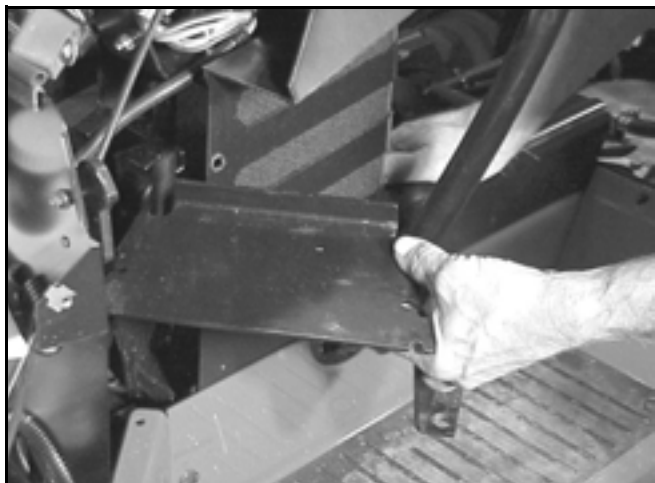

Figure 62
2. Remove the two bolts holding the battery support and remove the support (Figure 62).